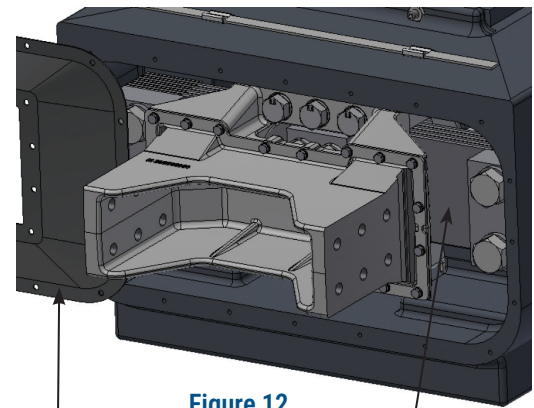

Figure 12
1. Remove diaphragm clamps and rubber diaphragm from front of unit **Parts 7, 8 and 9 in Parts List (See Figure 12)**.